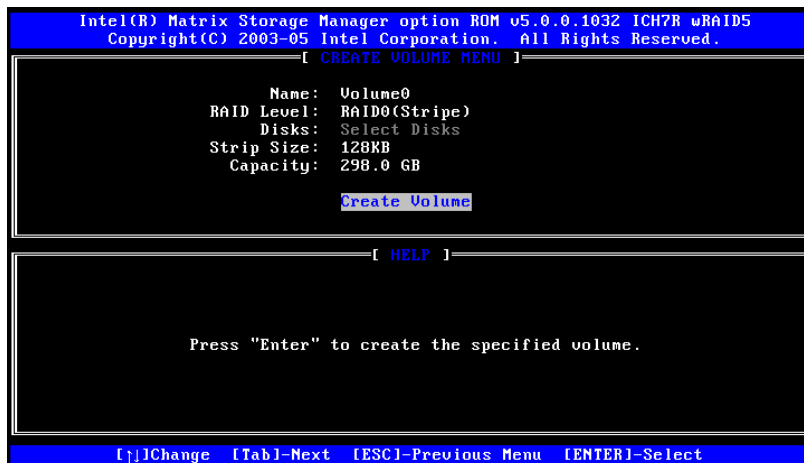

Figure F-6: Create the RAID Volume
Step 6: Create the RAID Volume. Press ENTER to create the RAID volume as specified. See Figure F-6.